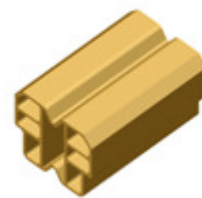

Figure 24:
1. A head bumper (Figure 24) may be required in the head of each pocket sliding panel track unless the panels contain door collectors, wind load adapters or high-performance extrusions. See the Multi-slide drawing provided at the time of the order for exact length and number of door bumpers required.